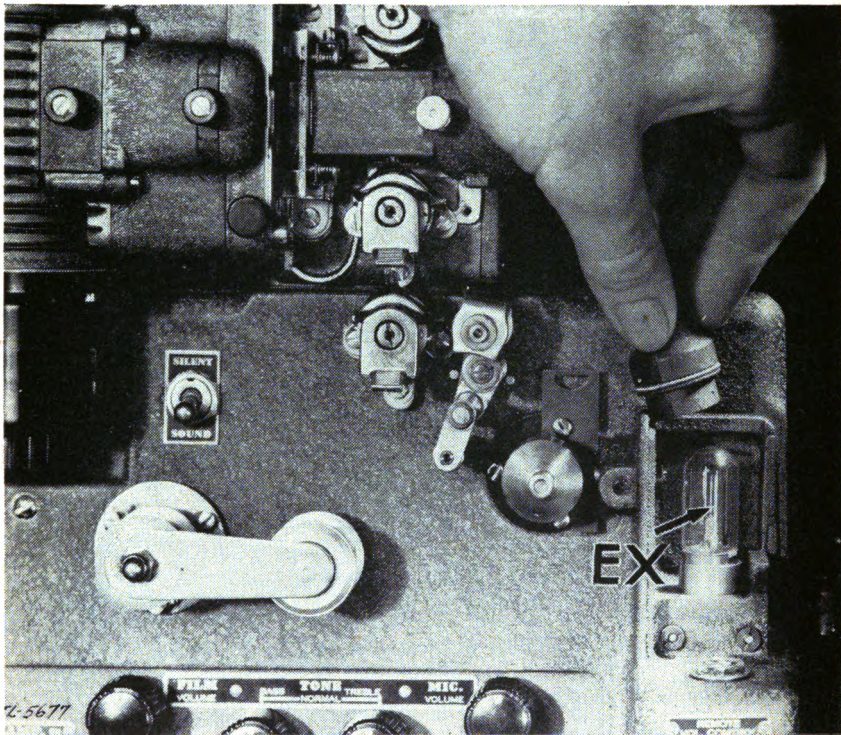

FIGURE 65.—Removing Bell & Howell exciter lamp.
(2) To replace the exciter lamp, loosen thumbnut and remove lamp cover (fig. 65). Lift off lamp shield. Press down on lamp, rotate to the left, and lift out. Replace with new lamp.